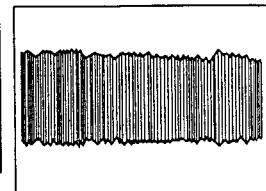

Fig. 1 RF waveform
2. Search for frame #2,251 and observe the RF waveform.(Fig. 1)